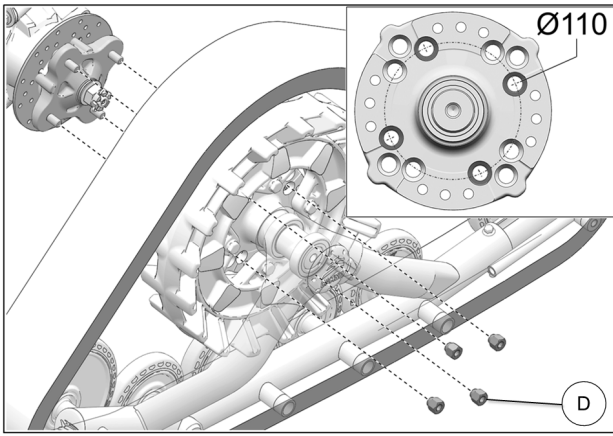

Fig. 19
7. Secure undercarriage to front hub using the provided M10 lug nuts (D). Use bolt circle Ø110 mm. Fig. 19